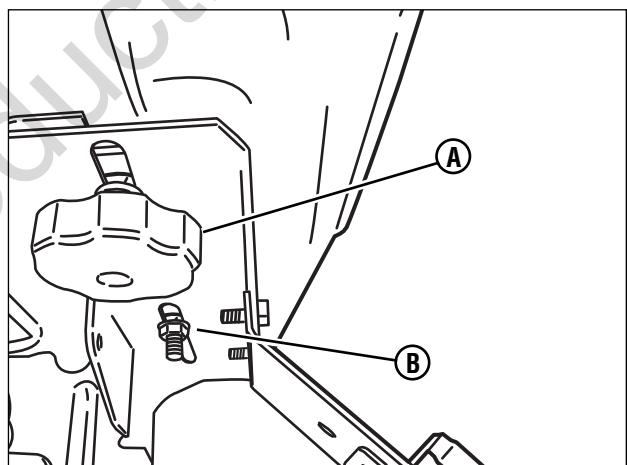

Figure 3: Operator seat adjustment
4. Adjust the seat (**A**, **Figure 3**) as needed to the most comfortable position. Refer to the Section entitled "OPERATOR'S SEAT ADJUSTMENT".
1. With the engine stopped, loosen the two adjusting knobs (**A**, **Figure 3**) and move the seat to the desired position. After adjustment, tighten the knobs securely.